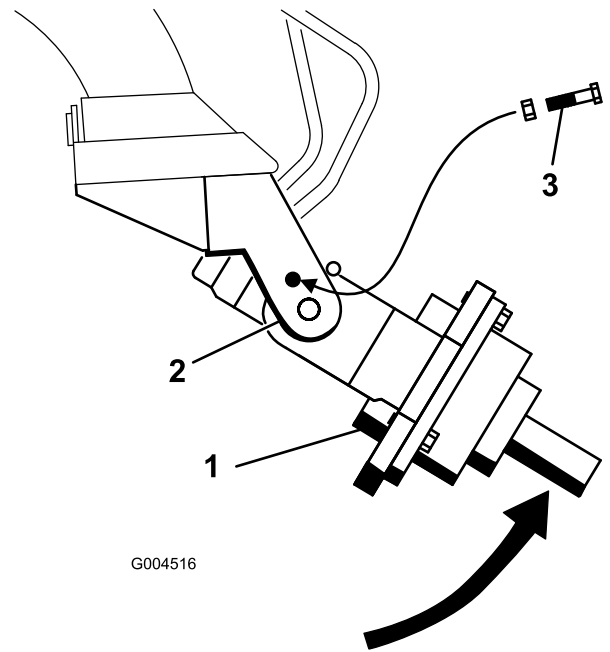

Figure 3
1. Manually rotate the auger drive head up, until you can slide 2 bolts into the holes on both sides of the cradle arms (Figure 3). Secure each bolt with a nut.